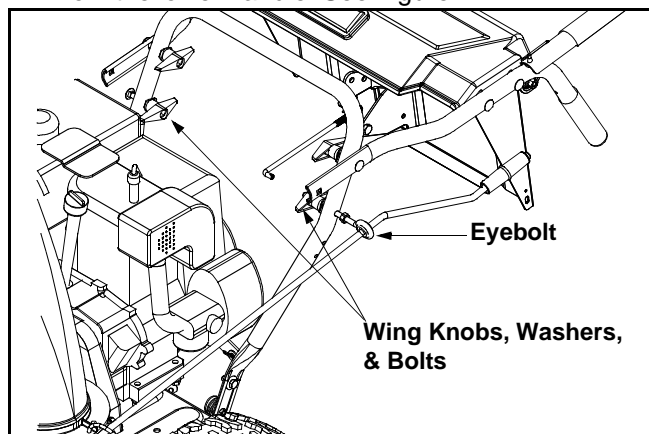

Figure 2
- Remove the **lower** two plastic wing knobs, cupped washers and carriage bolt (eyebolt on the left side) from the lower handle. See Figure 2.